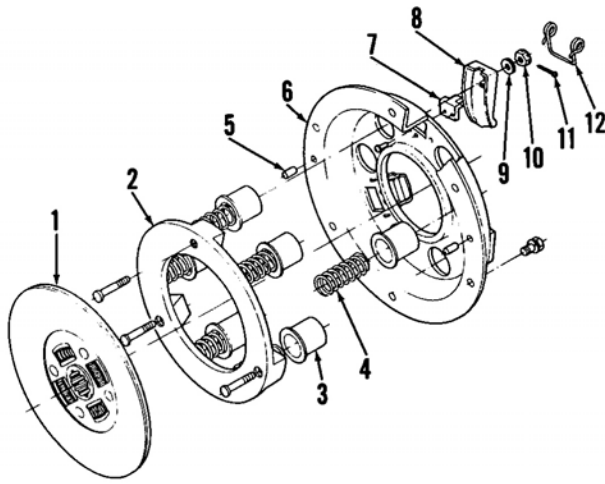
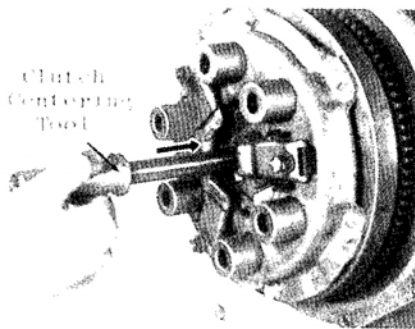
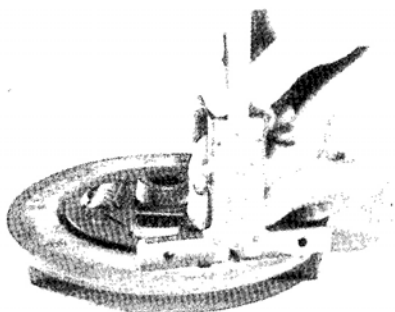

Fig. 41—Exploded view of clutch assembly used on all models.
Fig. 42—Install clutch centering tool as shown.
Fig. 44—View showing procedure for measuring clutch disc wear. Refer to text.
53. REMOVE AND REINSTALL. To remove clutch assembly for service, first split tractor between engine and clutch housing as outlined in paragraph 52. Insert clutch centering tool into clutch disc as shown in Fig. 42. Remove cap screws securing cover (6—Fig. 41) and pressure plate (2) assembly to flywheel, then withdraw pressure plate assembly. Remove clutch centering tool along with clutch disc (1).
Reinstall clutch assembly in reverse order of removal. Align clutch disc to engine crankshaft pilot bearing hole using clutch centering tool as shown in Fig. 42, then securely tighten cap screws mounting pressure plate assembly to flywheel.
Allowable difference between release lever heights is 0-0.3 mm (0-0.012 inch). Check lever heights by installing clutch centering tool (2—Fig. 43) along with measuring tool (3), then using feeler gage (G), measure clearance between release lever (1) and measuring tool (3). Adjust release lever height by removing cotter key (11—Fig. 41) and turning castle nut (10).
54. OVERHAUL. Remove clutch assembly as outlined in paragraph 53. Remove cotter keys (11—Fig. 41), then exercising caution, remove castle nuts (10). Complete disassembly with reference to Fig. 41. Cover (6) and pressure plate (2) are renewable only as parts of the complete assembly.
Measure clutch disc wear using a suitable depth gage as shown in Fig. 44. Renew clutch disc if distance from clutch disc surface to top of rivet head is not at least 0.1 mm (0.004 inch). Inspect pressure plate (2—Fig. 41) surface for cracks, scoring, heat discoloration and excessive wear. Surface grind or renew as needed. Inspect springs (4) for cracks, weakness, warpage and any other damage. Inspect all other parts for excessive wear or any other damage. Renew all parts as needed.